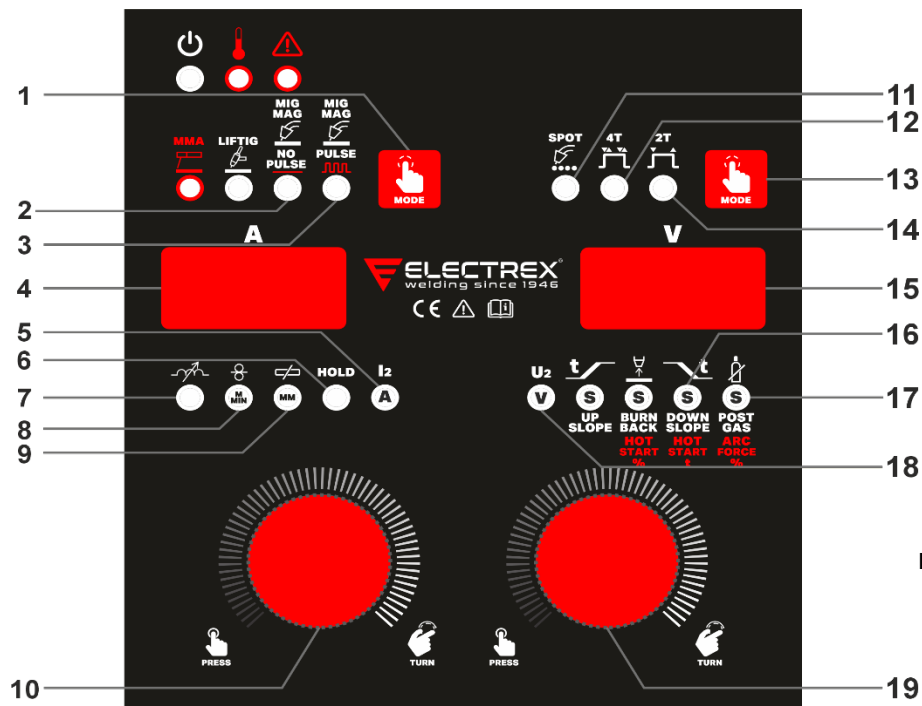

Fig 5.
- Select MIG/MAG welding mode with non-pulsed (2 - Fig. 5) or pulsed (3 - Fig. 5) MIG/MAG current. With pulsed MIG/MAG mode, the current will switch between a high and a low current, allowing low heat input, spatter free and easy to use welding.
8.1.1.- Synergic MIG/MAG welding parameters (see Fig.5)
2 times mode (14 – Fig. 5) – When selected indicates that machine is under 2 times torch mode. To continuous welding torch trigger must be always pressed.
4 times mode (12 – Fig. 5) – When selected indicates that machine is on 4 times torch mode. Under extensive welding seams, the operator can press and release torch trigger; the machine continues to weld. Press and release button to stop welding.
MIG/MAG Spot mode (11 – Fig. 5) – When selected indicates that machine is in MIG/MAG Spot welding mode. To select this function, press key 13 – Fig.5 until LED 11 lits. Adjust the spot time by pressing right knob (19 – Fig.5) until left display (4 – Fig. 5) shows SPt and turn right some to the desired time. Start spot welding by pressing torch trigger and continuing pressing until the end of the adjusted MIG welding program (see following pages).
Press right knob (19 – Fig. 5) until right display (15 – Fig. 5) shows the desired welding program (left display – 4 – Fig. 5 will show the latest selected program) and select your welding program by turning the right knob (19 – Fig. 5) until right display (15 – Fig. 5) shows the respective number.
2 times mode (14 – Fig. 5) – When selected indicates that machine is under 2 times torch mode. To continuous welding torch trigger must be always pressed